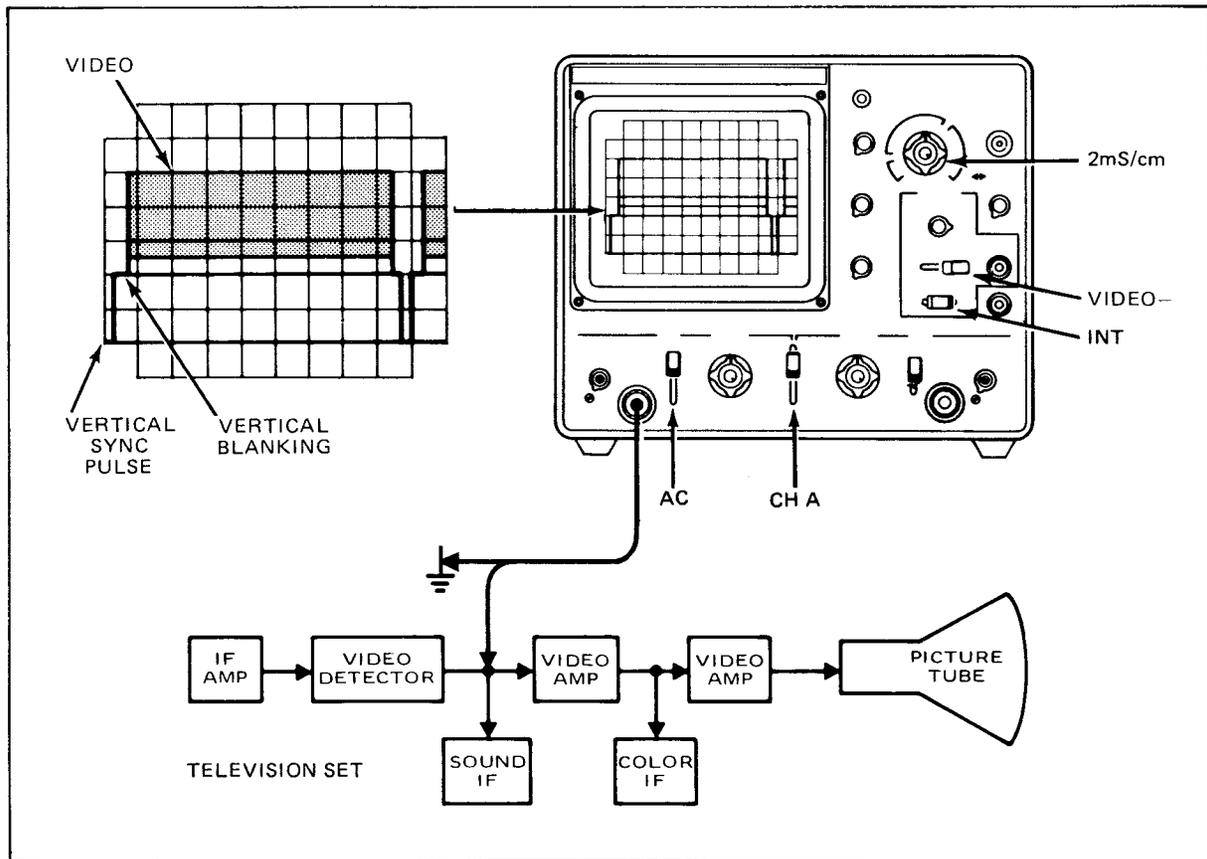
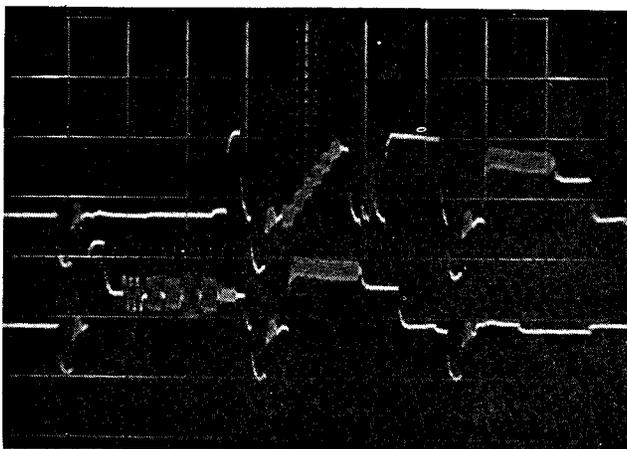
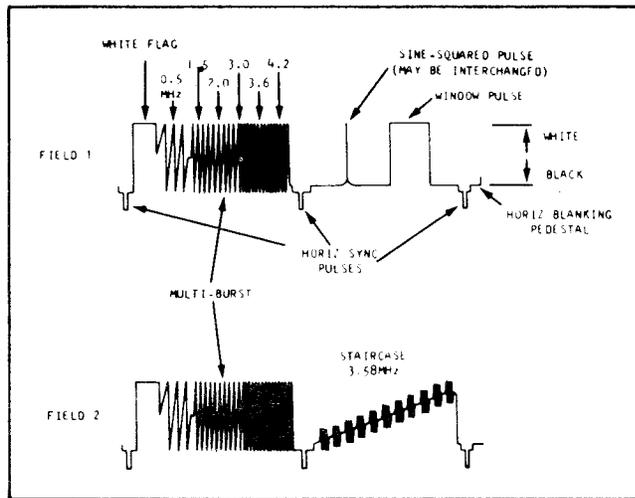
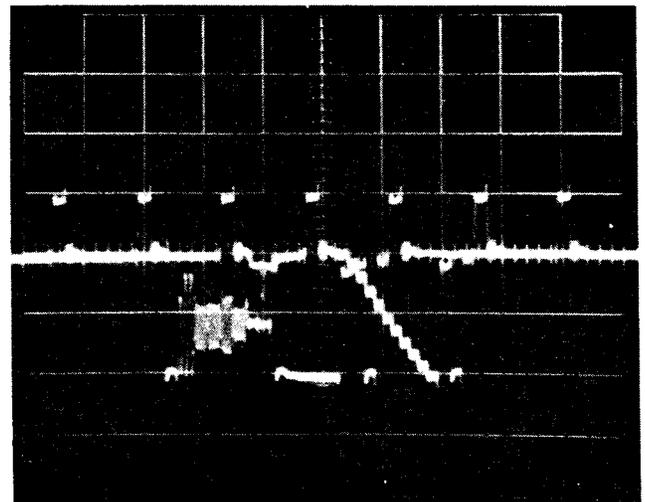

Fig. 14. Set-up for viewing fields 1 and 2 of VITS information.
Fig. 15. Oscilloscope presentation of fields 1 and 2 of VITS information.
Fig. 20. Typical VITS signal, fields 1 and 2.
Fig. 22. Oscilloscope presentation of VITS information, single-trace operation.
Many of the video servicing procedures can be performed using single-trace operation. These are outlined later in the applications section covering single-trace operations. One of these procedures, viewing the VITS (vertical interval test signal), can be accomplished much more effectively using a dual-trace oscilloscope. As outlined in the single-trace applications section and as shown in Fig. 20 and 21, the information on the Field #1 and Field #2 vertical blanking interval pulse is different. This is shown in detail in Fig. 20. Also, because the oscilloscope sweep is synchronized to the vertical blanking interval waveform, the Field #1 and Field #2 waveforms are superimposed onto each other as shown in Fig. 22. With dual-trace operation, the signal information on each blanking pulse can be viewed separately without overlapping. Fig. 14 indicates the oscilloscope control setting for viewing the alternate VITS.
2. The control settings of Fig. 14 are those required to obtain a 2-field vertical display on Channel A.
9. Pull the ◀▶POS control outward to obtain an additional 5X magnification. Rotate the control in a counterclockwise direction moving the traces to the left until the expanded VITS information appears as shown in Fig. 15.
Fig. 15 shows the dual-trace presentation of the Field #1 and Field#2 VITS information. The Field #1 information is displayed on the bottom trace.
The transmitted VITS may vary from one channel to another, but is a precision sequence of specific frequency, amplitude, and waveshape similar to Fig. 20 and 21. The television networks use the precision signals for adjustment and checking of network transmission equipment, but the technician can use them to evaluate television set performance. The first line of Field #1 (line 17) may begin with a "flag" of white video, followed by sine wave frequencies of 0.5 MHz, 1.5 MHz, 2 MHz, 3 MHz, 3.6 MHz, (3.58 MHz) and 4.2 MHz. This sequence of frequencies is called the "multi-burst." The first line of Field #2 (line 279) may contain an identical multi-burst. This multi-burst portion of the VITS is the portion that can be most valuable to the technician. The second line of Field #1 and Field #2 (lines 18 and 280), which may contain the sine-squared pulse, window pulse and the staircase of 3.58 MHz bursts at progressively lighter shading, are valuable to the network, but have less value to the technician. As seen on the television screen, Field #1 is interlaced with Field #2 so that line 17 is followed by line 279 and line 18 is followed by line 280. The en-
7. The waveform should be similar to that shown in Fig. 22. For the oscilloscope display, each vertical sync pulse starts a new sweep. This causes line 17 and line 279 (multi-burst) to be superimposed, as are lines 18
8. The presentation of the preceding paragraphs (Fig. 22) is the limit of observation possible with a single-trace oscilloscope. With the Model 1476 oscilloscope, however, a single-field VITS presentation can be displayed on alternate sweeps, as are Field #1 and Field #2 VITS. Because there is no provision for preselecting Field #1 or Field #2 information, either Field #1 or Field #2 (Fig. 15) will appear. The multi-burst information in the VITS is the most valuable for troubleshooting television receivers and, because it is present on both Field #1 and Field #2 VITS, either can be used for troubleshooting and signal tracing.